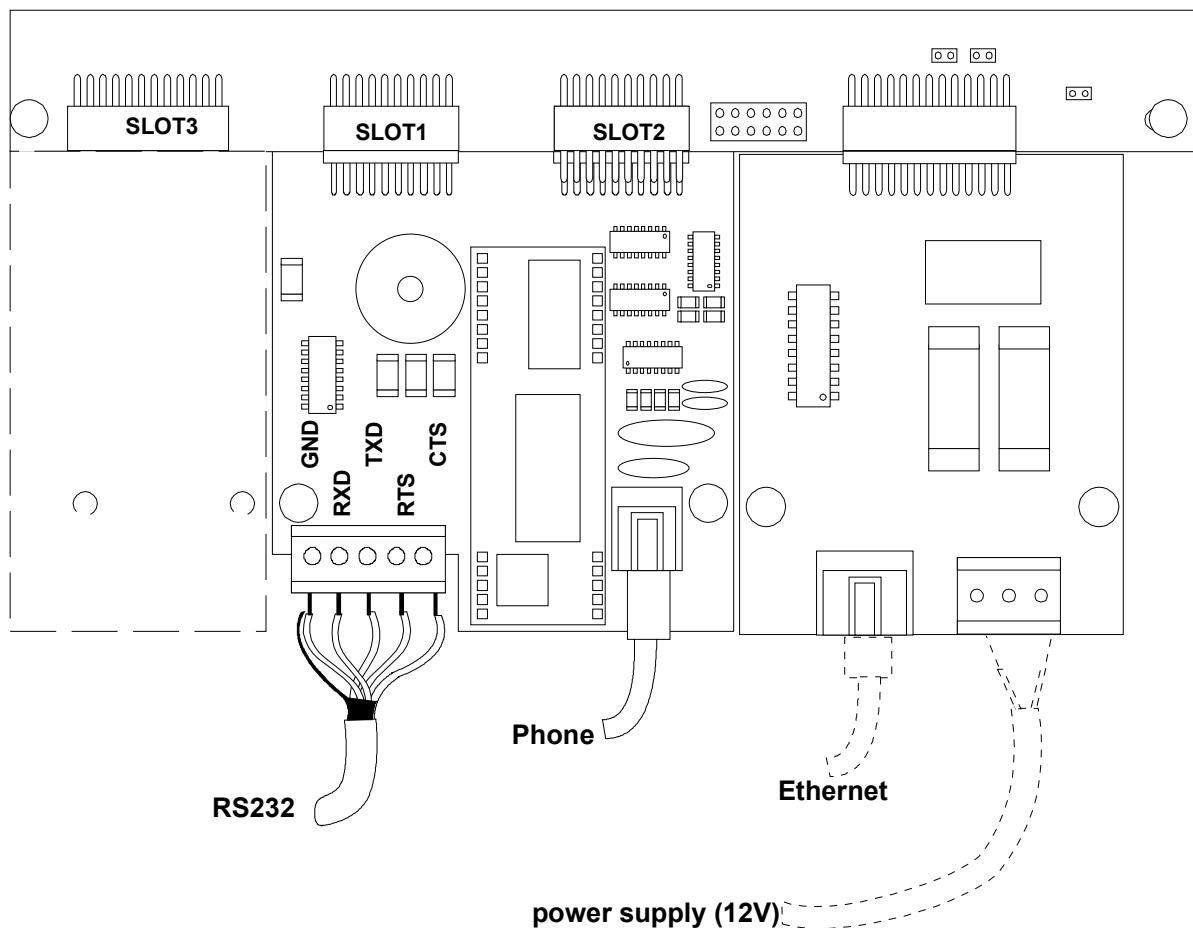

Figure 18. Connecting Modem and RS232 (option) Cables
- The telephone cable is connected as shown in Figure 18.
- The board also comes with an auxiliary RS232 port. Cable connection is shown in Figure 18.